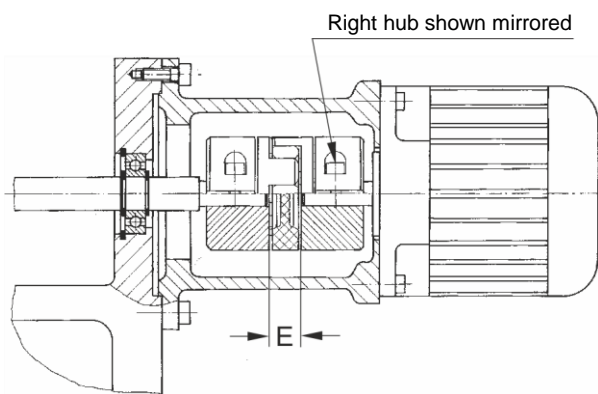

Fig. 11 ROBA®-ES with clamping hubs
After joining both coupling hubs, no axial pressure must be placed on the elastomeric element (2). Keep to distance dimension "E" acc. Fig. 11 and Table 9!
Sizes	Distance dimension "E" (Fig. 11)